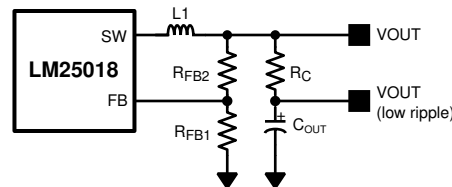

图 7-1. Low Ripple Output Configuration
This regulator regulates the output voltage based on ripple voltage at the feedback input, requiring a minimum amount of ESR for the output capacitor ( $C_{\text{OUT}}$ ). A minimum of 25 mV of ripple voltage at the feedback pin (FB) is required for the LM25018. In cases where the capacitor ESR is too small, additional series resistance can be required ( $R_{\text{C}}$  in 图 7-1).
For applications where lower output voltage ripple is required, the output can be taken directly from a low ESR output capacitor, as shown in 图 7-1. However,  $R_{\text{C}}$  slightly degrades the load regulation.